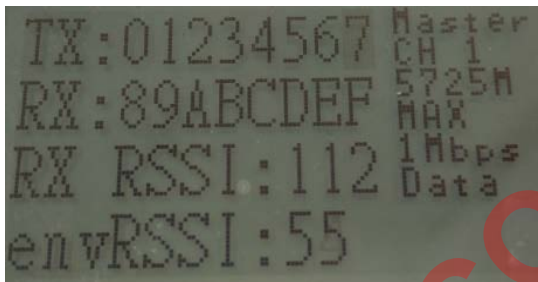
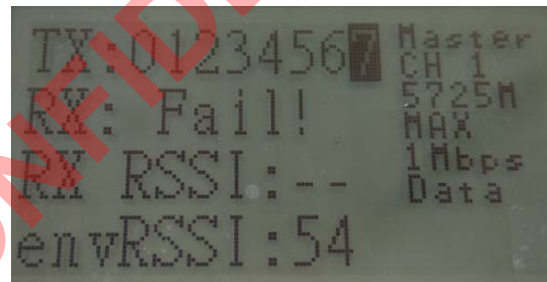

Fig 13
Fig 14
6. If get the acknowledgment from DK board2, display ack. message as shown in Fig 13, otherwise display Fail! As shown in Fig 14.
4. If get the Tx payload from DK board1, display TX payload as shown in Fig 13, otherwise keeping display last received payload from Tx.